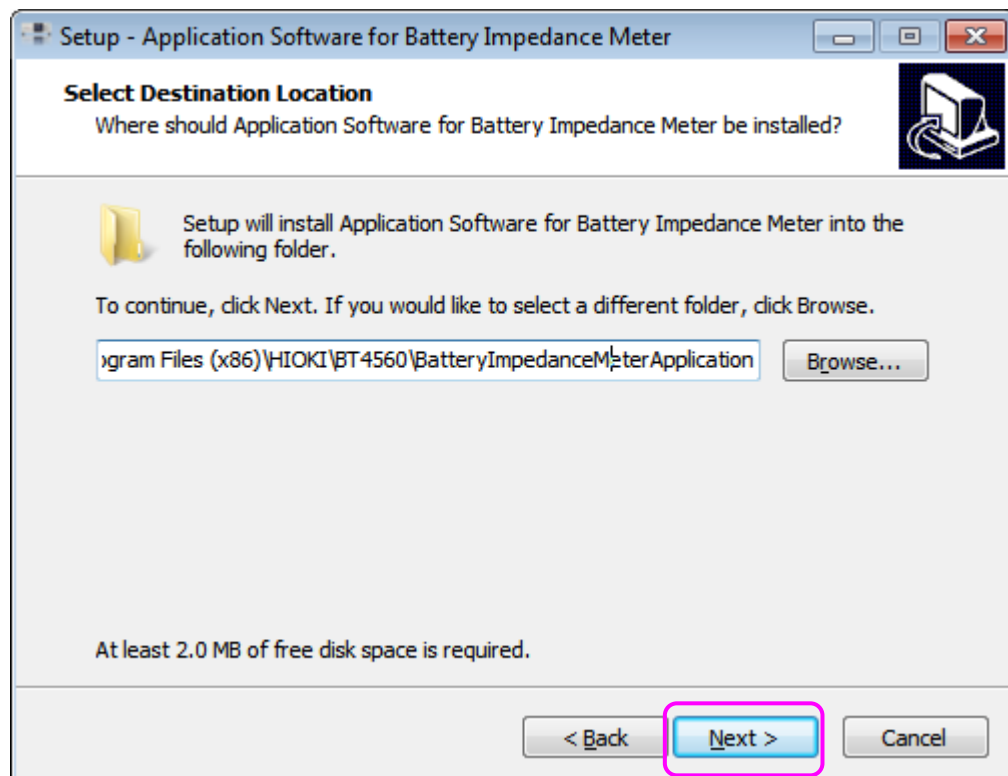

Fig 2-6
Step4 : Click [Next]. (Fig 2-6)